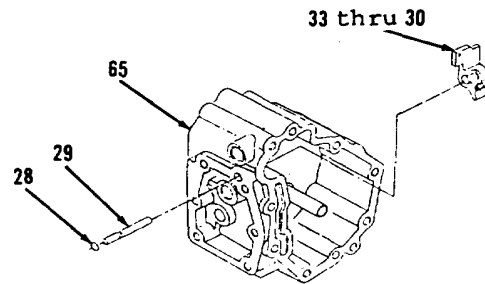
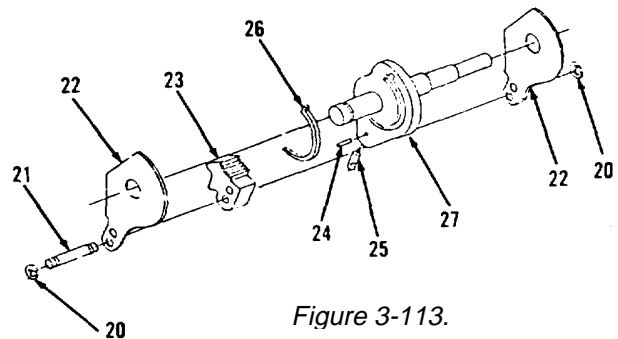
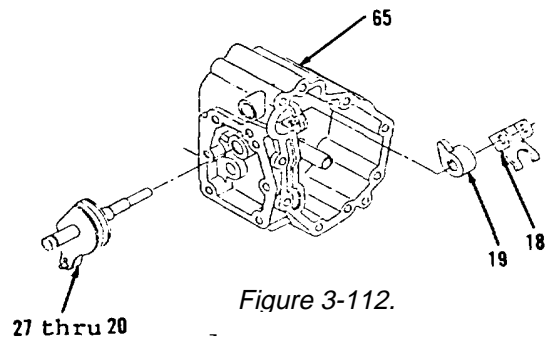
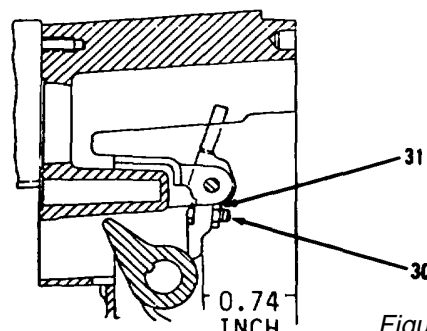

Figure 3-114.
Figure 3-113.
Figure 3-112.
Figure 3-139.
39. Position items 33 thru 30 as an assembly on inside of housing (65, Figure 3-114).
40. Install ring (28) in groove of shaft (29).
41. Install items 29 and 28 as an assembly through housing (65) into lever (33).
42. Position spring (26) in groove of cam on shaft (27, Figure 3-113).
43. Install pin (25) so tip of pin (25) engages in hole at end of spring (26) when installed in shaft (27).
44. Install dowel (24) to hold pin (25) in shaft (27).
45. Position stop (23) and two plates (22) on shaft (27).
46. Install two pins (21) and four rings (20).
47. Position shaft items 27 thru 20 as an assembly through housing (65, Figure 3-112).
48. Install levers (15 and 14) on shaft (27).
49. Install items 27 thru 20 as an assembly.
50. Turn shaft (27) counterclockwise toward rear of housing (65).
51. Adjust setscrew (30, Figure 3-139) if removed.
52. Tighten nut (31) to 15 lb-in torque.